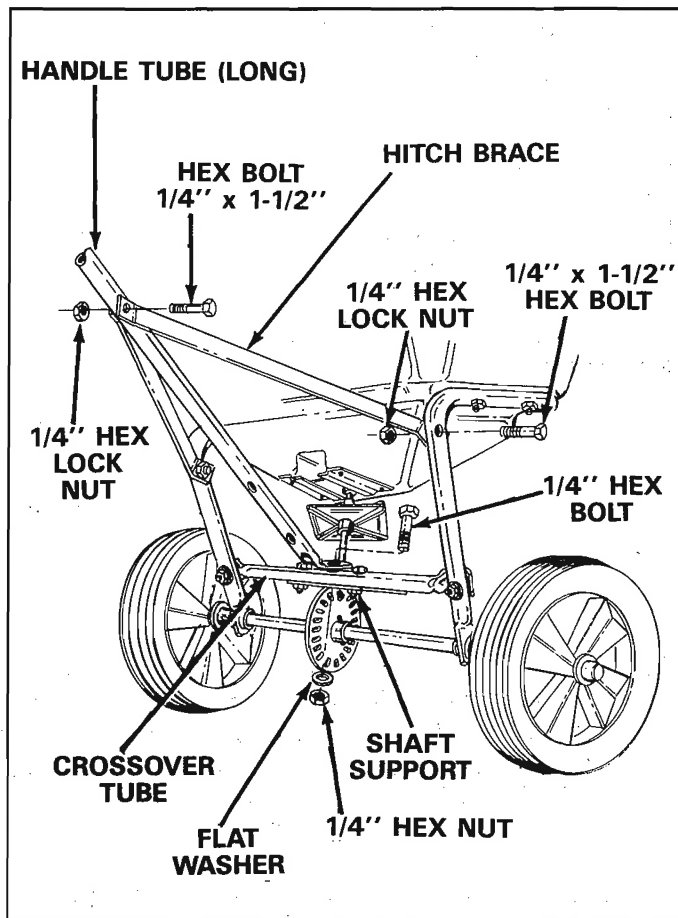

FIGURE 8
11. Assemble two hitch braces to the inside of the hopper frame, one each side, using two 1/4" x 1-1/2" and two 1/4" lock nuts. See figure 8. **DO NOT TIGHTEN AT THIS TIME.**
12. Align the holes in the ends of the two hitch braces with the nearest hole in the handle tube assembly, secure with 1/4" x 1-1/2" hex bolt and 1/4" lock nut. See figure 8.